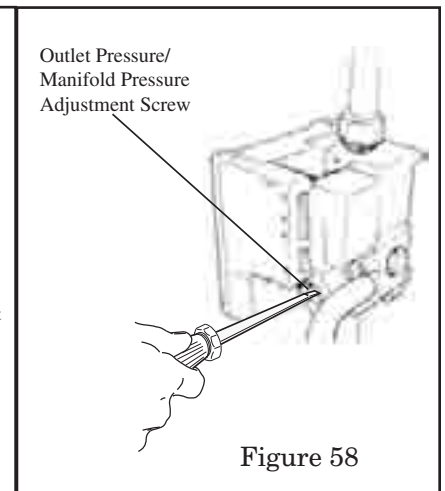

Figure 58
f) Adjust manifold gas pressure, as needed, to achieve desired input capacity. To accomplish this, turn the adjustment screw clockwise to increase the gas flow rate and counterclockwise to decrease the gas flow rate using a flat-head screwdriver. See Figure 58.